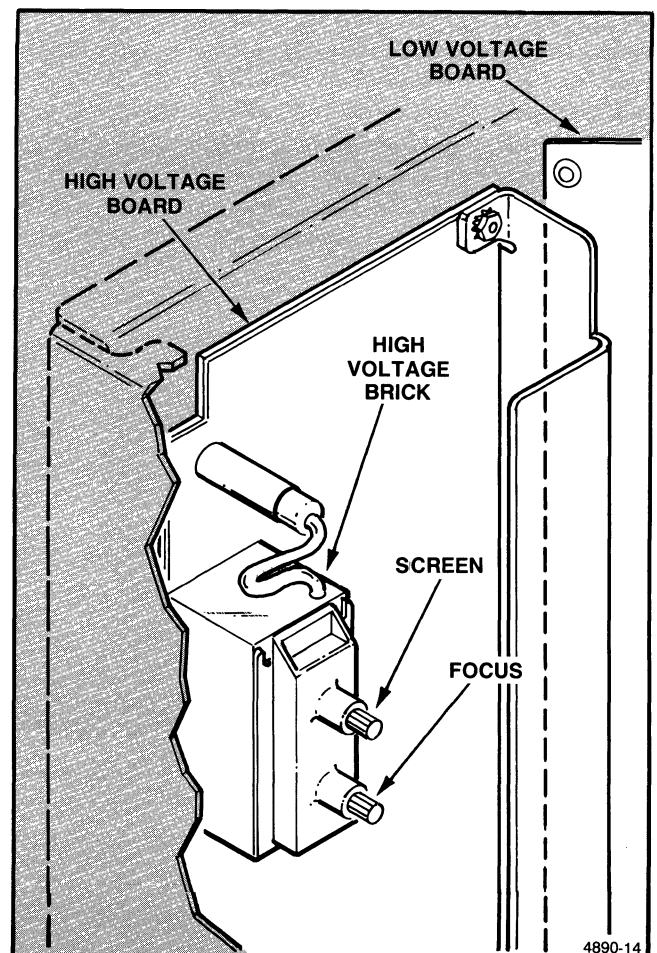

Figure 5-4. Screen Control on H.V. Board.
1. Adjust – G2 fully counterclockwise. This control is labeled SCREEN; it is the upper control on the HV divider on the High Voltage board. See Figure 5-4.